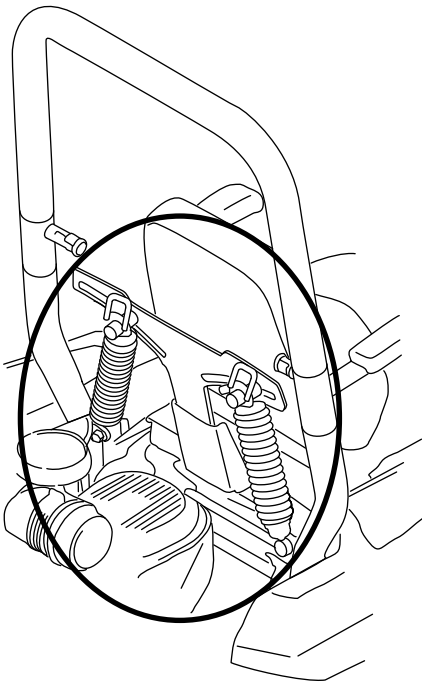

Figure 5
**Note:** Remove the cable ties in the area shown in Figure 5 before operating the machine.